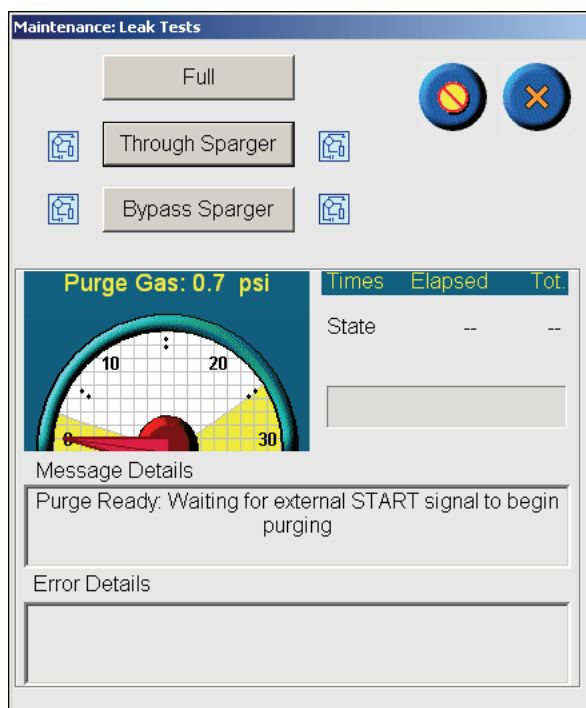

Figure 3.27. Maintenance: Leak Tests dialog box
2. Press the **Leak Test** icon. The Maintenance: Leak Tests dialog box appears (see Figure 3.27).